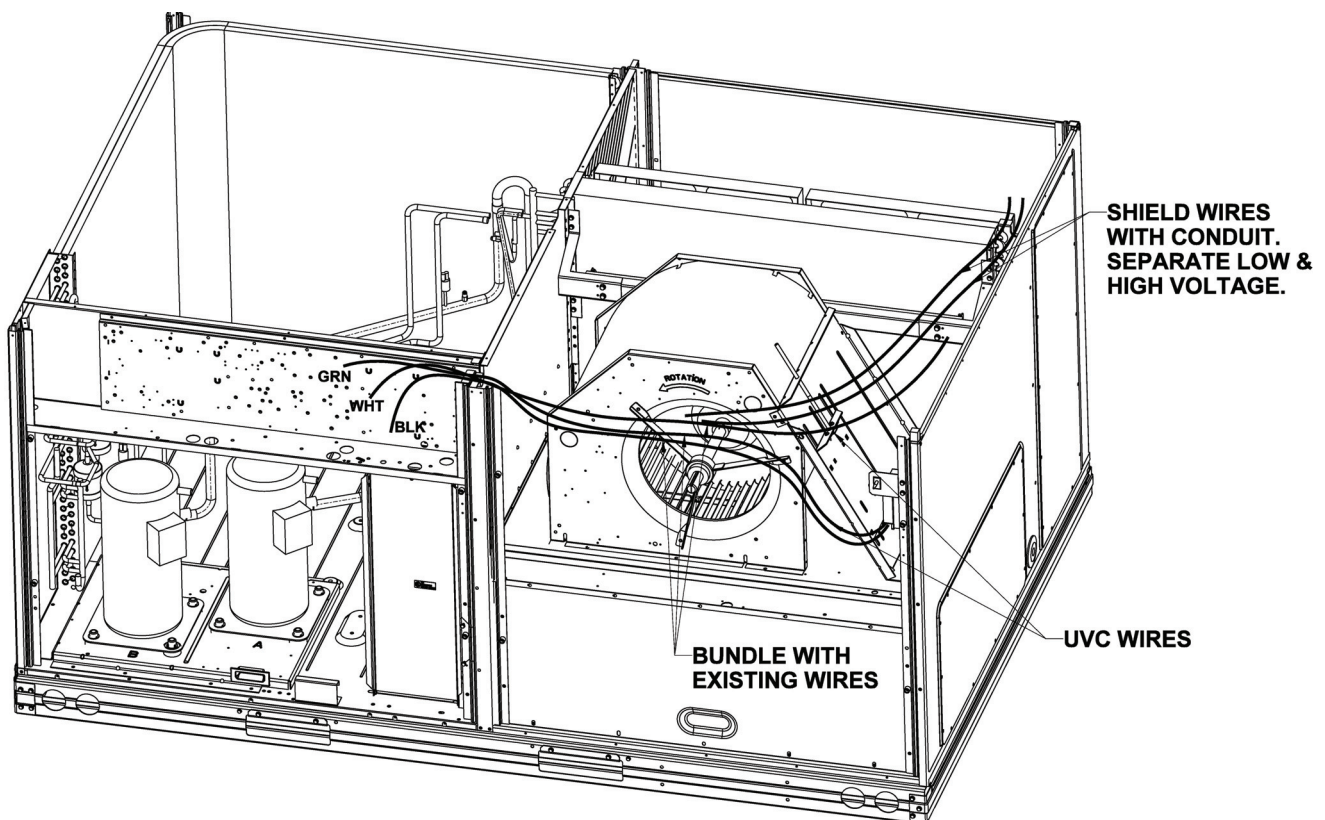

Fig. 9 — Wire Locations
3. For 2 switch units connect the black wire from the UVC fixture to interlock switch 1. Locate the additional black wire and connect it from the interlock switch 1 to the free pin of switch 2. (See Fig. 9.)